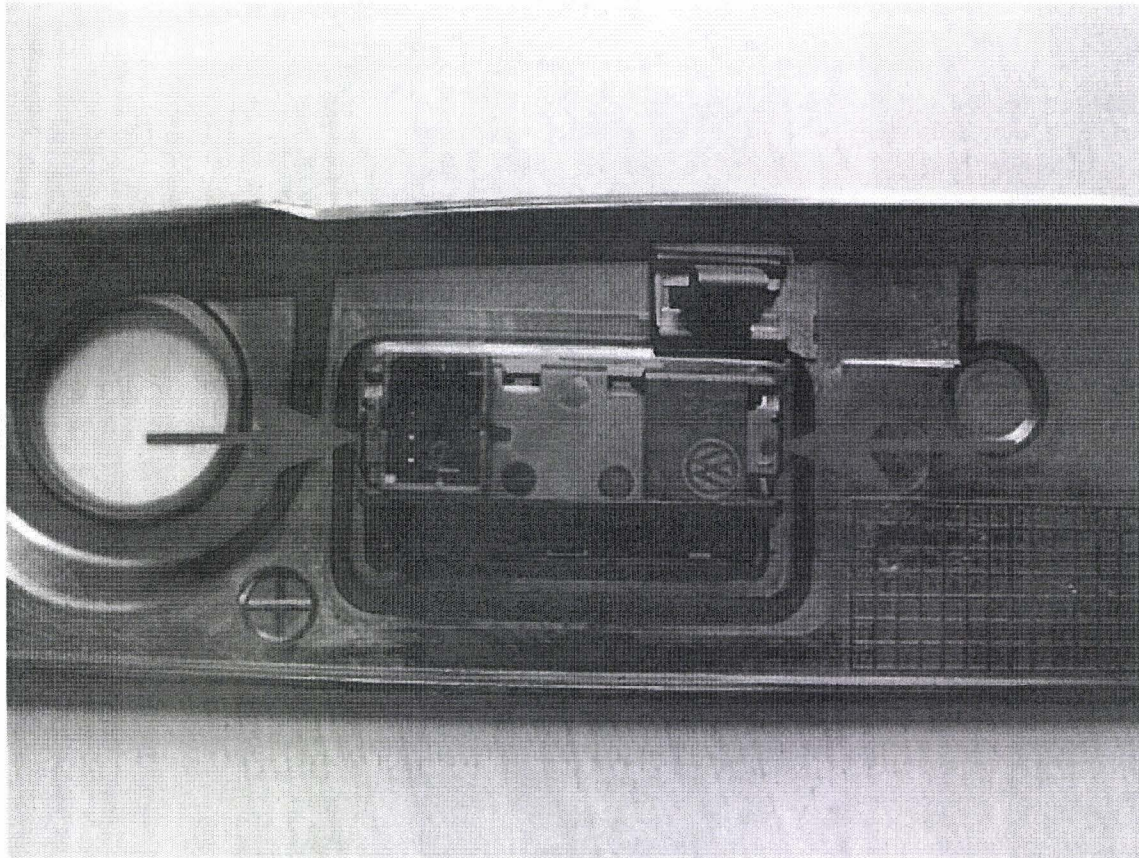

Figure 1
3. Remove the switch from the cover panel by pressing in the two retaining clips inboard and remove the switch from the cover panel (Figure 1)